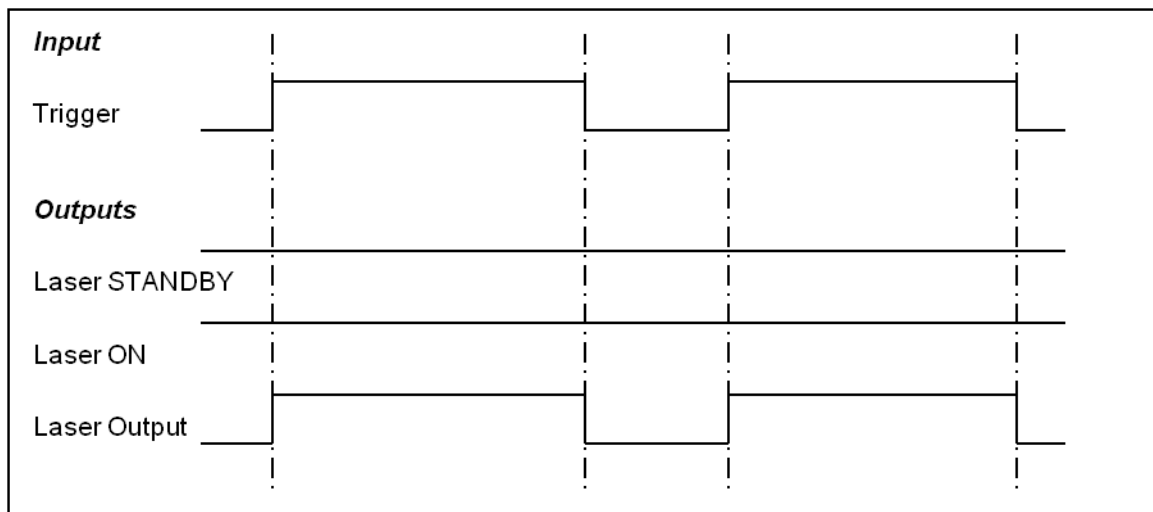

Figure 84 Gated Trigger Operation (CW Output)
- See Figure 56 to Figure 84 for examples.
- See Figure 61 to Figure 84 for examples.